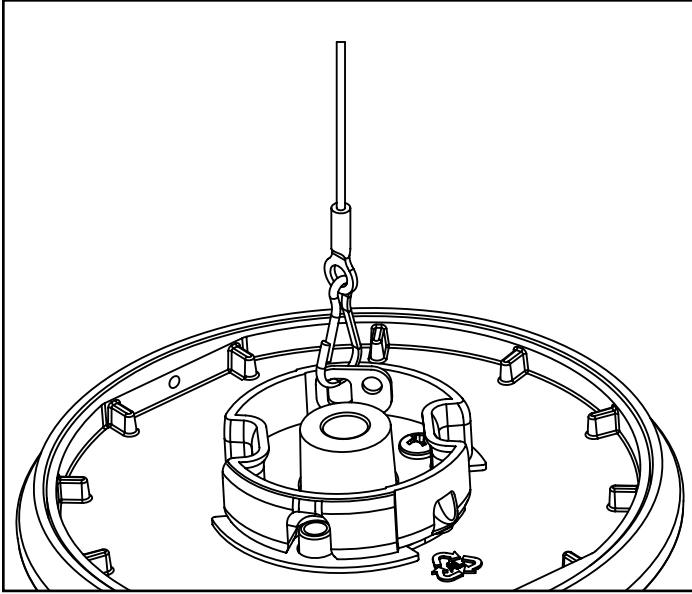

Figure 3
4. Attach the tether to the lighting fixture. (Figure 3).